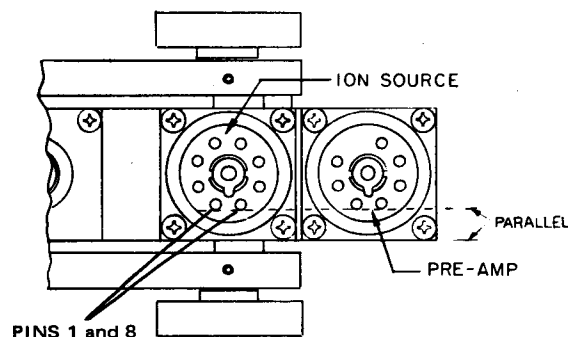

Figure 6-28.
9. Wipe the new O-ring and mating surfaces with clean lint-free cloth and place new ion source in cavity. Locating pin should be approximately in center of guide hole. Be sure that pins 1 and 8 are parallel to the sidewall of the spectrometer tube (Figure 6-28). Tighten hold-down flange evenly and firmly.